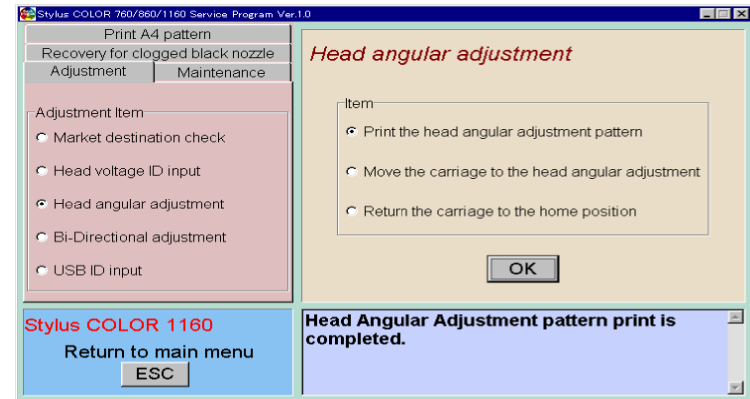

Figure 5-17. Choose the Print head angular adjustment pattern
- Input a 12-digit code of the Head Voltage ID in the above menu. In case you input the incorrect character or symbol in this menu, this program detects it automatically and displays error message in the bottom column. Figure 5-17 shows you the one of the error message.